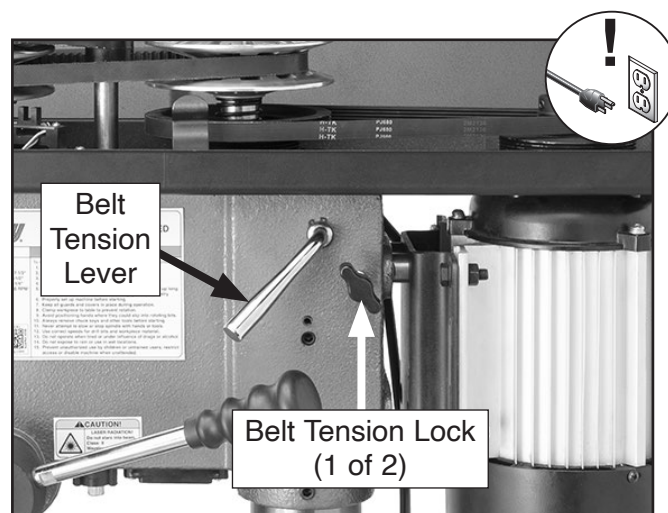

Figure 65. Location of belt tension locks and lever (T33961 shown).
3. Loosen (2) belt tension locks (see **Figure 65**).
4. Rotate belt tension lever clockwise to take tension off of drive belt (see **Figure 65**).